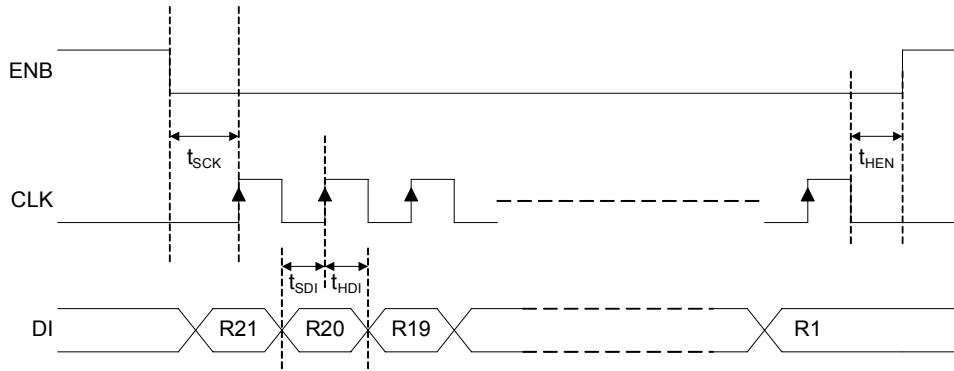

FIGURE 27. TIMING DIAGRAM FOR PROGRAMMING THE INTERNAL REGISTERS OF THE QLx4600-SL30
Pins 16 (DI), 45 (ENB), and 46 (CLK) are used to program the registers inside the QLx4600-SL30. Figure 27 shows an exemplary timing diagram for the signals on these pins. The serial bus can be used to program a single QLx4600-SL30 according to the following steps:
The DO pin (pin 17) can be used to daisy-chain the serial bus among multiple QLx4600-SL30 chips. The DO pin outputs the overflow data from the DI pin. Specifically, as data is pipelined into a QLx4600-SL30, it proceeds according to the following flow. First, a bit goes into shadow register 1. Then, with each clock cycle, it shifts over into subsequent higher numbered registers. After shifting into register 21, it is output on the DO pin on the same clock cycle. Thus, the DO signal is equal to the DI signal, but delayed by 20 clock cycles. The timing diagram for the DO pin is shown in Figure 27 where the first 20 bits output from the DO are indefinite and subsequent bits are the data fed into the DI pin. The delay between the rising clock edge and the data transition is  $t_{CQ}$ .